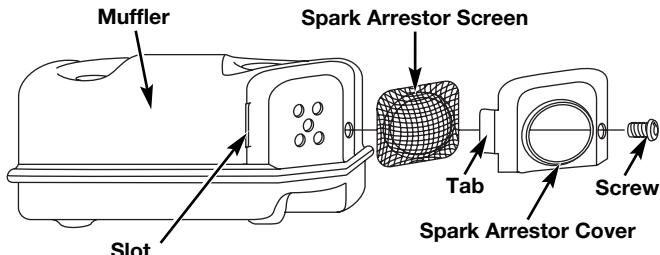

Fig. 37
- With a flat blade screwdriver or Torx T-20 bit, remove the screw attaching the spark arrestor cover to the muffler (Fig. 37).